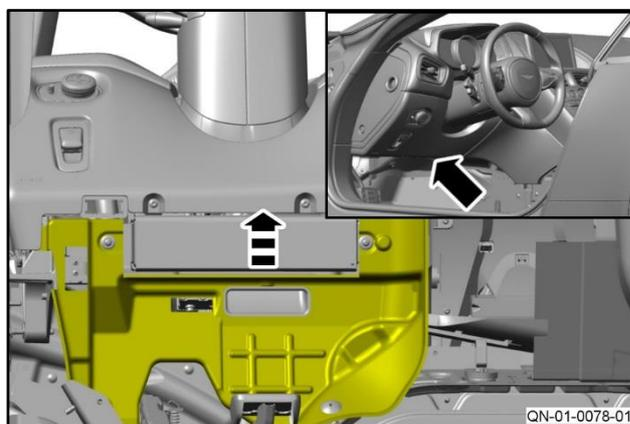

Figure 3
1. Move the hush panel to get access to the screw that attaches the lower duct to the instrument panel (IP) (refer to Figure 3).